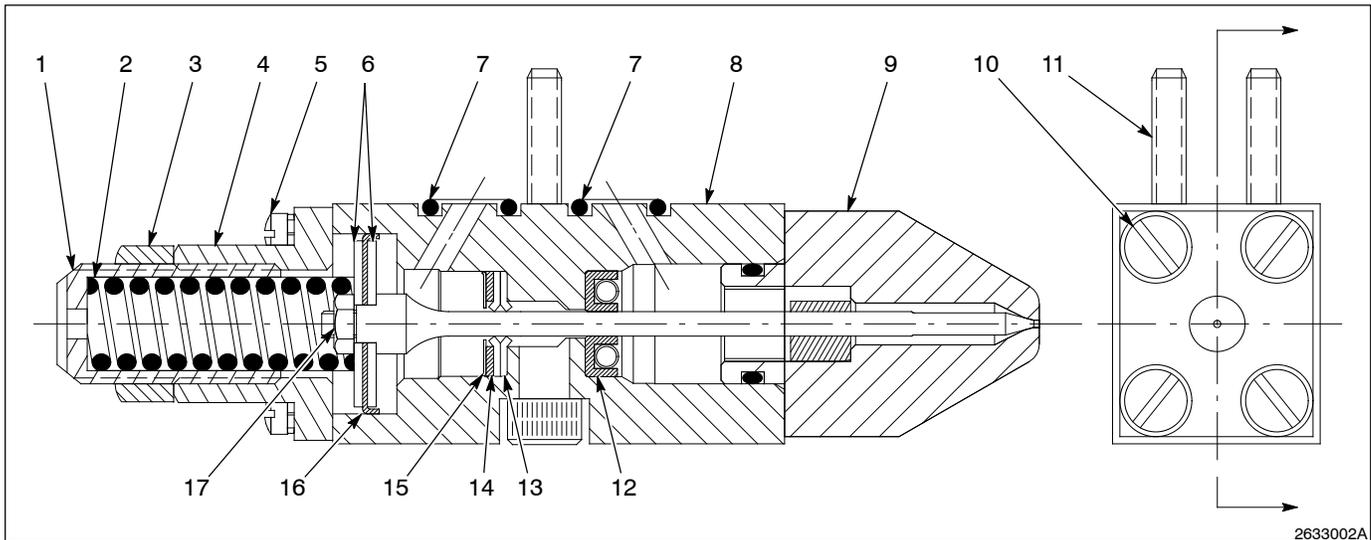
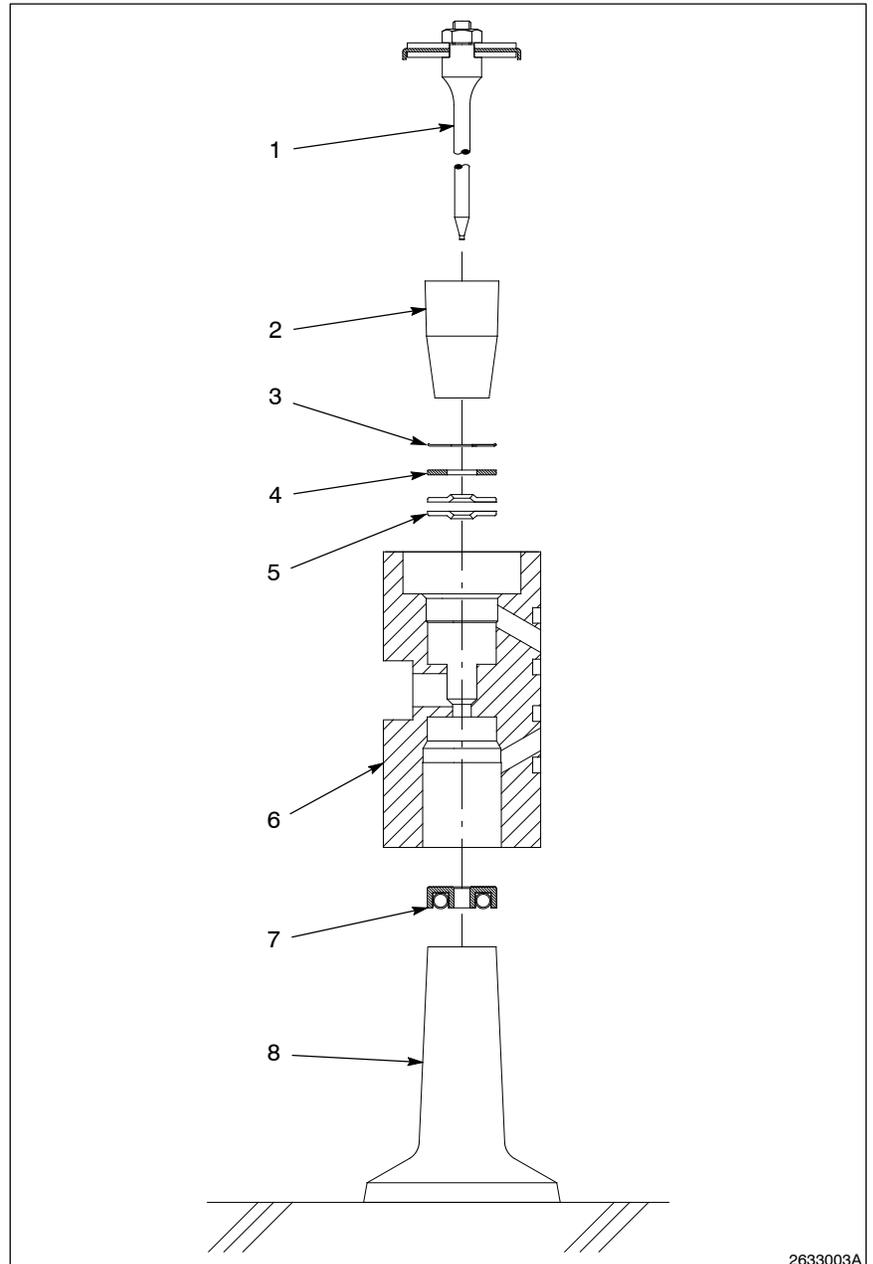

Fig. 2 ZCN Dispensing Gun, Cutaway View (Standard Gun)
Fig. 3 Assembling the ZCN Dispensing Gun
2. See Figure 2. Using a  $\frac{5}{32}$ -in. hex key, remove the two socket head cap screws (11) that retain the gun to the manifold.
4. Remove the two O-rings (7) from the mating surface of the gun.
1. See Figure 2. Using a slotted screwdriver, remove the two fillister head screws (5) with attached washers from the air cap end of the gun. Remove the screws by alternately turning each a few turns.
2. Remove the air cap assembly (1, 3, 4) from the gun body (8).
3. Remove the compression spring (2).
1. See Figure 2. Loosen and remove the four 8-32 fillister head screws (10) that retain the nozzle/needle assembly (9) to the gun body (8).
1. See Figure 2. Remove the retaining ring (15) from the air side of the gun body (8) using the retaining ring removal tool. Discard the retaining ring.
2. Remove the seal support disc (14) from the air side of the gun body. Remove the two preformed hat seals (13) from the air side of the module. Discard the seal support disk and the preformed hat seals.
4. Use the removal tool to remove the spring seal (12) from the liquid side of the module.
See Figure 2. If the needle and nozzle are to be reused, perform the following steps:
1. See Figure 2. Build the nozzle/needle assembly (9) as follows, using parts from the seal kit and the appropriate nozzle/needle kit:
- b. See Figure 2. Install a piston washer (6) against the shoulder of the needle.
- c. Install the piston seal washer (16) on top of the installed washer.
- e. Install the needle nut (17) on the set screw. Torque the nut to 1 N•m (9 in.-lb) using an adjustable torque screwdriver and a  $\frac{3}{16}$ -in. 6-point hex socket. Hold the needle using a  $\frac{5}{32}$ -in. wrench.
See Figure 3. Install the spring seal (7) into the liquid side of the gun body, as follows:
1. Make sure that the spring (open) side of the seal faces out of the module. See Figure 3 for installation orientation.
3. Seat the spring seal using the base tool (8). Place the gun body (6) and base tool down on a smooth, clean, flat surface in the orientation shown in Figure 3.
See Figure 3. Follow these procedures to assemble the air side of the ZCN dispensing gun:
1. Assemble the preformed hat seals (5) in the air side of the gun module as follows:
- a. Place two preformed hat seals into the matching stepped bore on the air side of the module. Orient the preformed seals as shown in Figure 3. Place a seal support disc (4) (flat washer) on top of the hat seals.
- b. Place the module on a flat surface, liquid side down with the base tool (8) installed in the liquid side of the module. See Figure 3 for proper tool orientation.
- c. Insert the module assembly tool (2) onto the seal support disc oriented as shown. Use a flat piece of metal or the side of an adjustable wrench to push on the tool and aid in seating the hat seals.
2. Remove the module assembly tool and install the push-on retaining ring (3) on top of the seal support disc. Use the module assembly tool (2) to push the retaining ring into position. Visually check to ensure the retaining ring is seated on the support disc.
3. Insert the needle assembly (1) into the gun:
- b. See Figure 2. Slip the module assembly tool onto the needle. Push the needle with centered module tool until the tool is trapped between the retaining ring and the piston washer (6).
- a. See Figure 7. Install the piston insertion tool (3) onto the piston seal (See Figure 3, (16)) so that the lip on the tool faces the cylinder in the module body.
- b. Push the needle, piston, and insertion tool up against the air cylinder side of the module. Note that the lip on the tool will engage the walls of the cylinder and guide the piston seal washer (16) into the cylinder without kinking.